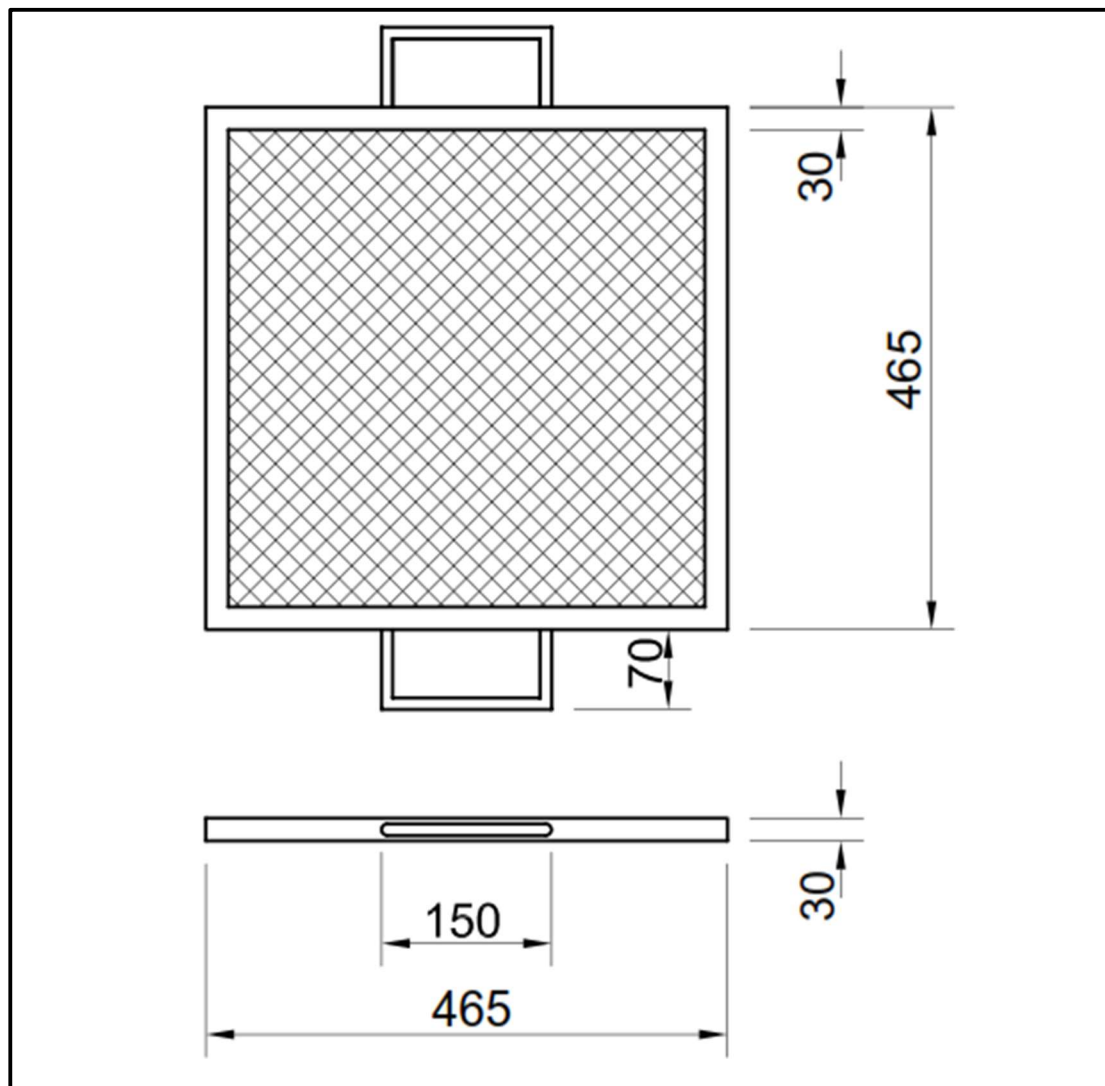

FIGURE 4 – BRAAI GRID
- Cut material to size as indicate in Figure 4.